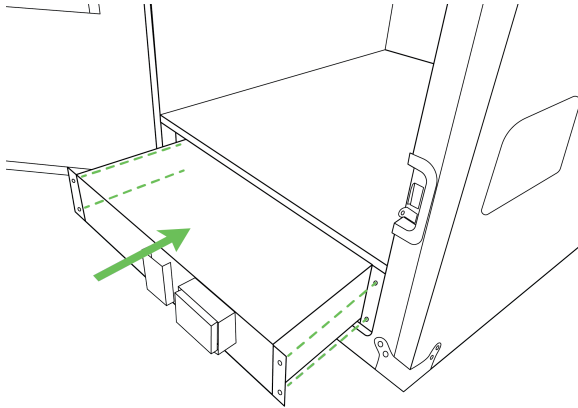

Figure 6-39. Aligning the UPS
5. Slide the UPS into the lower UPS compartment and push it back so that the installed L-brackets align with the box's bracket holes (Figure 6-39).